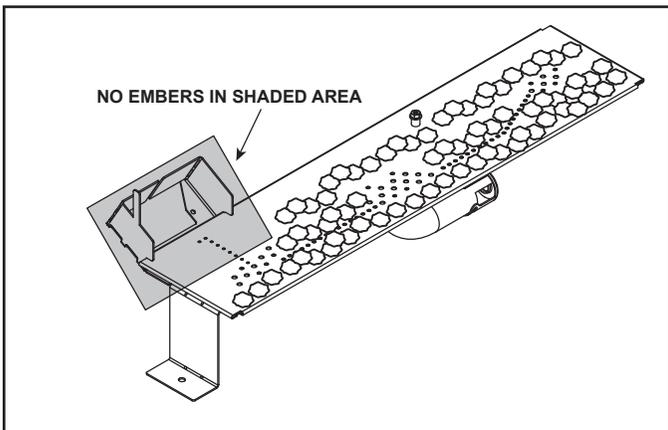

Figure 11.1 Placement of Embers
- Embers CANNOT be placed in pilot bracket area. See Figure 11.1. Care should be taken not to cover the lighting trail of ports (from back to front).
- When placing Glowing Embers® onto the burner care should be taken so that the ports are not covered. Place the dime-size ember pieces near the port holes in the burner top (see Figure 11.1). Failure to follow this procedure will likely cause lighting and sooting problems..